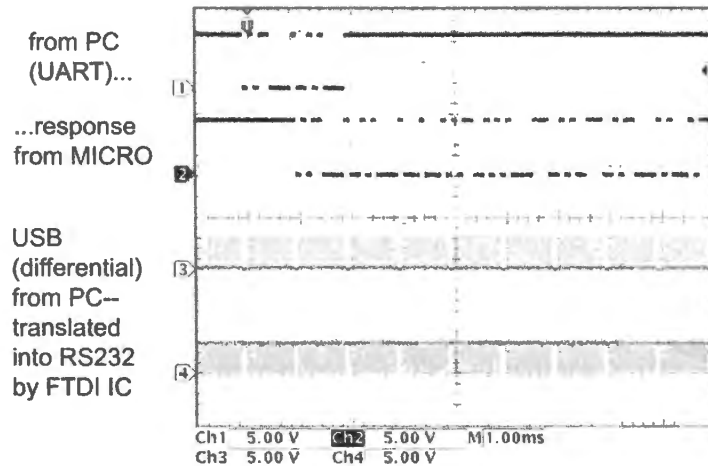

Figure 24N.2 Micro loader signal exchange, using UART and USB serial protocols.
The top trace of Fig. 24N.2 shows an RS232 transmission from a computer to DS89C430 (which accepts downloaded code in this format). The second trace shows the controller’s response, which it issues as soon as it has seen the initial ASCII⁶ character for “Carriage Return”⁷ (CR).
If we scrutinize the bit stream on the top trace, see Fig. 24N.3, we can just make out the pattern – which ought to be CR followed by line-feed (LF). The hexadecimal values for these ASCII characters are 0D, 0A.